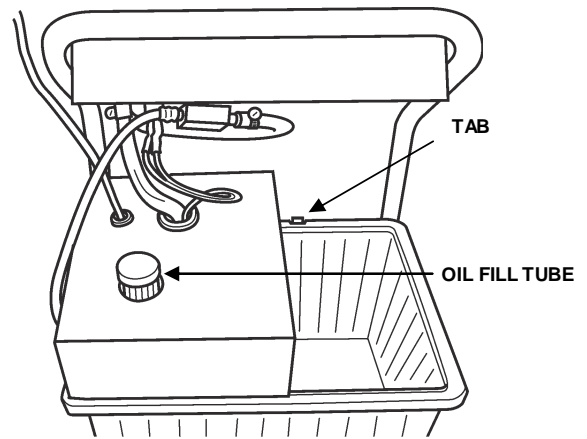

Fig. 2 Back view
3. Make sure that the slots on both storage bins are seated on the cart brackets provided. The entire edge of the plastic bin should fit over the hanging bracket with the 2 tabs sticking through the holes in each bin. (fig. 2).